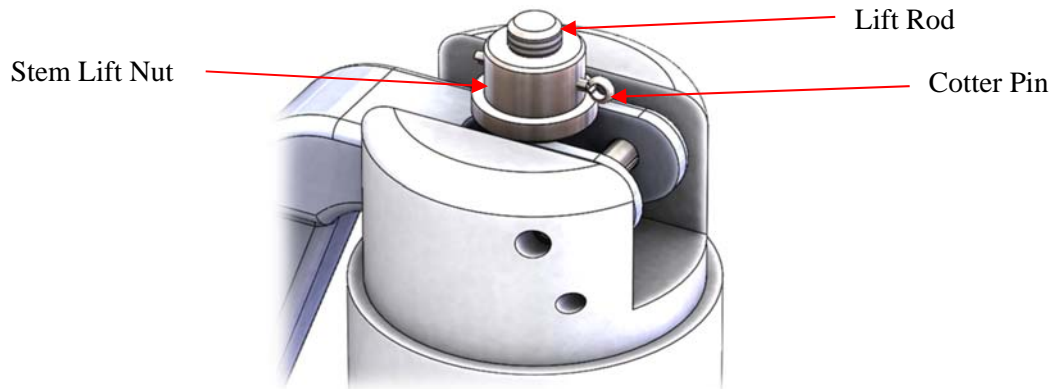

Figure 18: Upper Portion of Lift Lever Cap
2. Bend straight and pull out the cotter pin. See Figure 18. Set it aside.
3. Unscrew and remove the stem lift nut. See Figure 18.